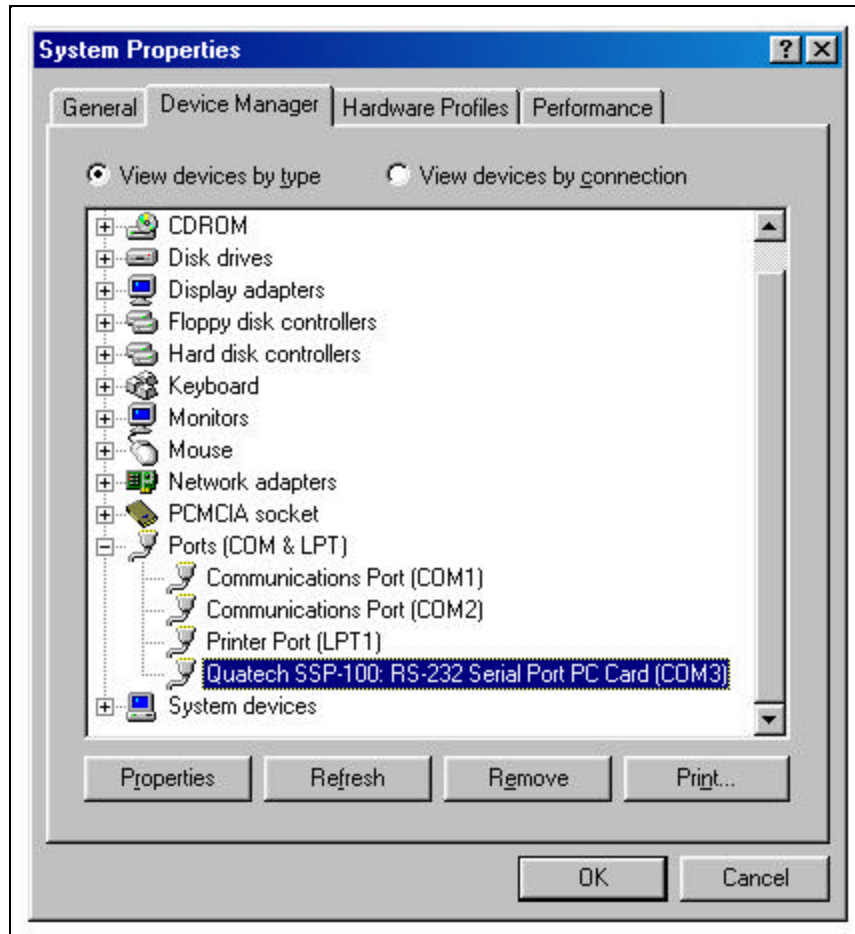
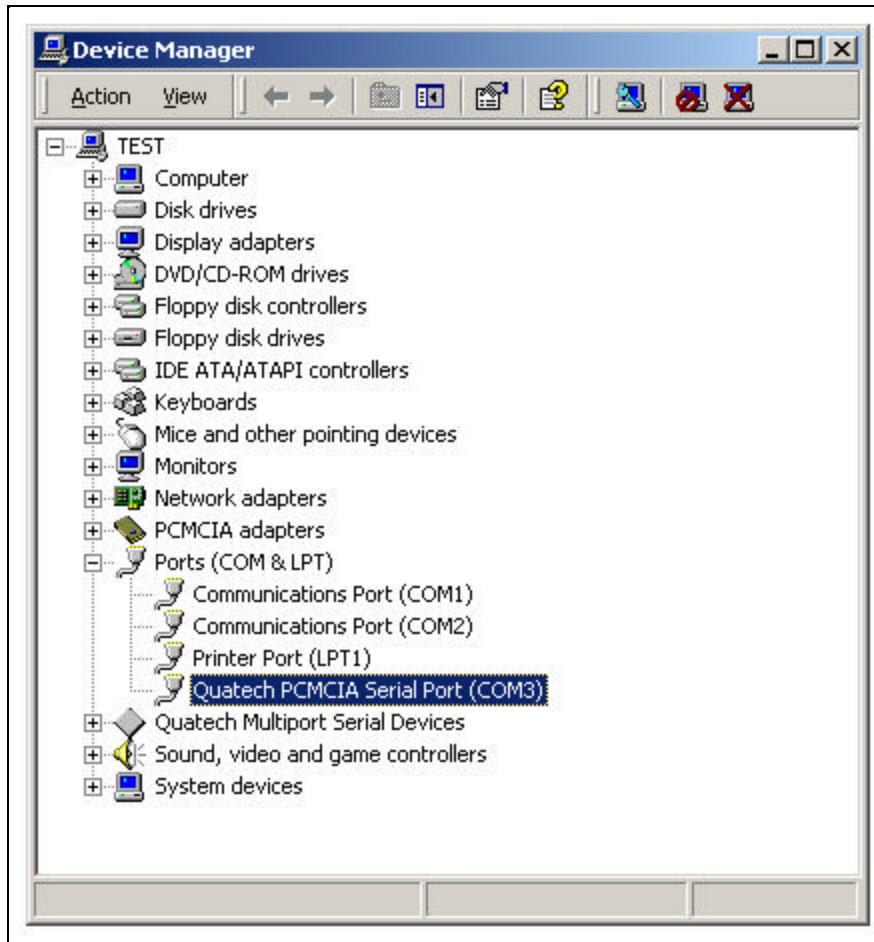

Figure 7. Windows 95, 98,ME Device Manager
Figure 8. Windows 2000 Device Manager
3. The SSP-100 belongs to this hardware class. The device name for the SSP-100 is **Quatech SSP-100: RS-232 Serial Port** (see Figure 7. Windows 95, 98 Device Manager{Figure 8. Windows 2000}).